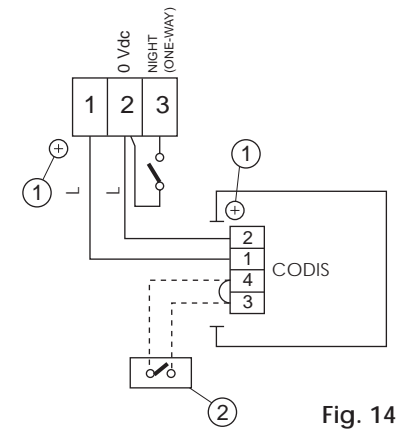

Fig. 14
- Connection of CODIS programming unit (optional) as shown in fig. 14.
for the connection. The screening must be fixed underneath the special screws (fig. 14 - ref. 1).
To inhibit operation of the CODIS, interrupt the jumper between terminals 3 and 4 and install a switch (fig. 14 - ref. 2).
Activation of input 3 (fig. 14) enables the NIGHT or ONE-WAY operating functions to be given priority over the function selected on the CODIS unit. To select the priority function, program the CODIS suitably at level III (function no. 2 - see section 8.3). The input can be activated by means of a timer.
For the electrical connection of the CODIS, consult figure 14. The operation of the CODIS can be inhibited in the two following ways:
- by cutting the jumper between terminals 3 and 4 by means of a switch (fig. 14);